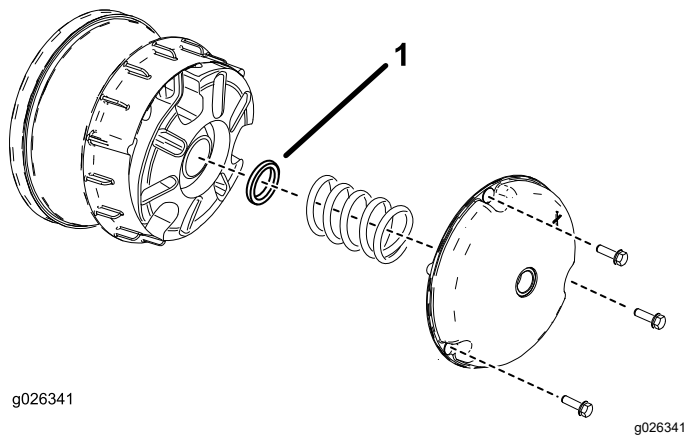

Figure 61
2. Remove the bolts securing the primary clutch cover as shown in Figure 61.